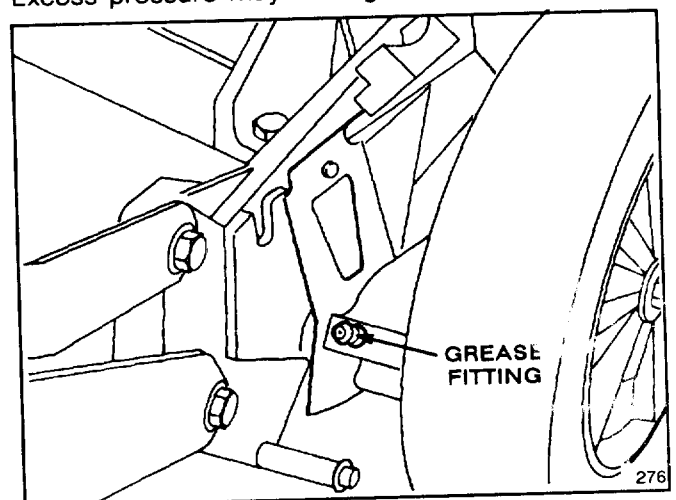

Figure 18
2. **SELF-PROPELLED MODEL ONLY**—Move rear wheel height-of-cut levers to "C" setting. Wipe grease fittings with clean rag (Fig. 18). Install grease gun onto fitting and gently apply 1 or 2 pumps of #2 Multi-Purpose Lithium Base Grease. Excess pressure may damage seals.